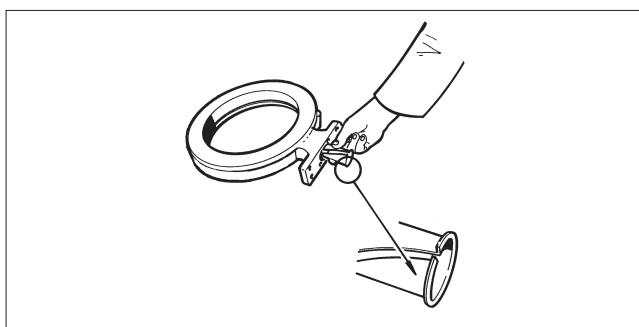

Fig. 16 Mounting the standard bearings
- Mount the bearings into the body (see Fig. 16).